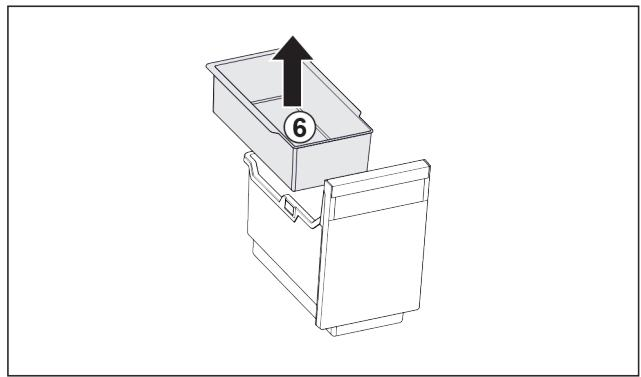

Fig. 100
- ▶ Remove the hang-on tray Fig. 100 (6).